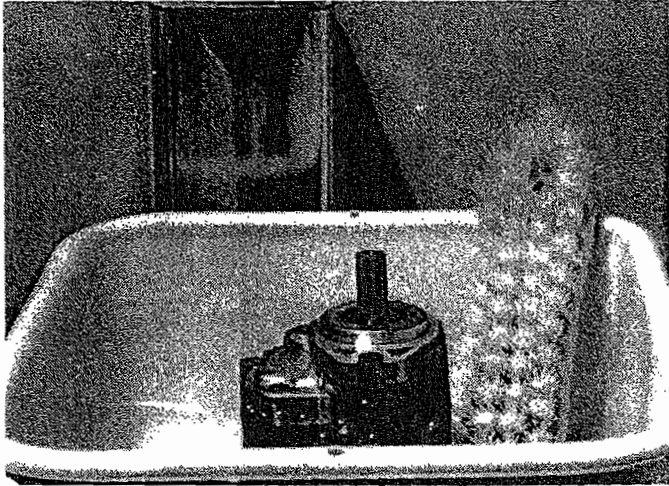

Fig. 1
1. Clean outside of pump thoroughly. (Fig. 1)